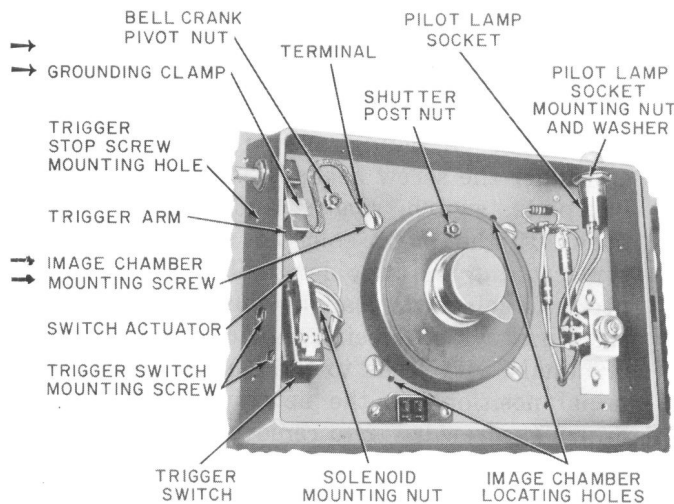

Fig. 12 — KS-14593 L2 Message Register Camera — Partial View with Hood Removed
(2) To remount the image chamber, remount the parts removed in (1) in the reverse order of removal. To remount a retaining ring, position the ring with its opening against the groove in the pin. Place the blade of the 3-inch C screwdriver against the outer edge of the ring opposite the center projection. Push the ring into position on the pin. Before tightening the image chamber mounting screws, insert the shanks of the 1/8-inch drills into the image chamber locating holes (Fig. 12) from the lens side of the camera, making sure that the drills enter the corresponding locating holes in the image chamber. With the drills in place, securely tighten the image chamber mounting screws. Remove the drills and remount the camera hood as covered in 3.06.
(3) If the shutter post is to be replaced, remove the post nut (Fig. 12) and washer using the 417A wrench. Remove the post using the 209 wrench. Mount the new post and securely tighten the post nut making sure the washer is under the nut. Apply a thin film of KS-7471 grease to the cylindrical surface of the post and the top of the hexagonal section at the base of the post using the R-2966 brush. Mount the shutter on the post. Check the position of solenoid requirement in Section 030-301-701.
(4) Position a spacer over each shutter plate mounting screw hole in the camera frame. Position the shutter plate so that the mounting screw holes in the plate are aligned with the spacers and screw holes in the frame. Insert and tighten the mounting screws, making sure that the washers are under the heads of the screws.
(5) Check that the shutter blade clears the shutter plate and the bottom of the shutter housing through its full stroke. If necessary to obtain this clearance, remove the shutter and adjust the blade slightly with the fingers as required. Then remount the shutter and shutter plate and recheck the clearance.
(6) Remount the image chamber as covered in 3.07.
- (1) Remove the camera cover. Remove the hood as covered in 3.06. Tag and unsolder the leads to the solenoid. Remove the retaining ring from the pin connecting the solenoid plunger link to the solenoid. Remove the pin. Remove the solenoid mounting screws with the 3-inch C screwdriver while holding the mounting nuts (Fig. 12) on the hood side of the camera with the 418A wrench. Take care not to lose the lockwashers. Remove the solenoid. Check the solenoid mounting shim and replace it if torn or otherwise damaged.
- (2) Mount the new solenoid on the shim and tighten the mounting screws friction tight, making sure the washers are in place under the nuts on the hood side of the camera. Connect and solder the leads. Adjust the position of the solenoid to meet the position of solenoid requirement in Section 030-301-701. Securely tighten the solenoid mounting screws. Remount the hood cover.
3.25 Bell Crank Pivot: Fig. 10 — Remove the image chamber as covered in 3.07. Using the 417A wrench, remove the bell crank pivot nut on the lens side of the camera shown in Fig. 12. Remove the pivot taking care not to lose the washer. Mount the new pivot and securely tighten the nut making sure the washer is in place under the nut. Apply a thin film of KS-7471 grease to the pivot with the R-2966 brush. Remount the image chamber as covered in 3.07.
3.26 Grounding Clamp: Fig. 12 —
(1) **General:** The trigger on the KS-14593 L1 camera must be grounded to the camera case with a grounding clamp as shown in Fig. 12. To check this, remove the camera hood in accordance with 3.02 and 3.06. If the trigger arm is not grounded, order a grounding clamp (see Fig. 3) and mount the part as covered in (3). If it is necessary to replace a grounding clamp, proceed as covered in (2) and (3).
(2) To replace a grounding clamp, loosen the image chamber mounting screw with the 5-inch E screwdriver and remove the grounding terminal. Hold the switch actuator away from the trigger arm and slide the grounding clamp until it is off the trigger arm.
(3) Mount the new grounding clamp as follows: Hold the switch actuator away from
3.27 Trigger Switch: Fig. 12 —